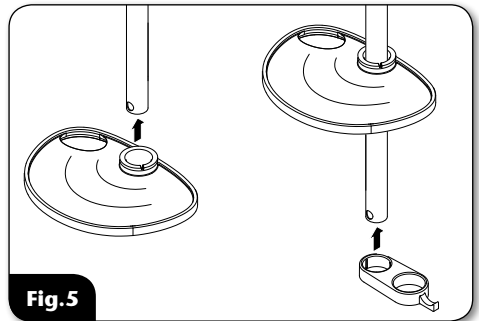

Fig.5
- Slide the bottom tray and the hose retainer onto the bottom of the riser rail, below the holder (**fig.5**).